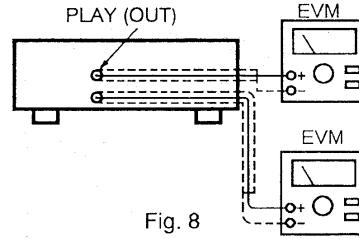

Fig. 8
- Connect the measuring instruments as shown in Fig. 8.